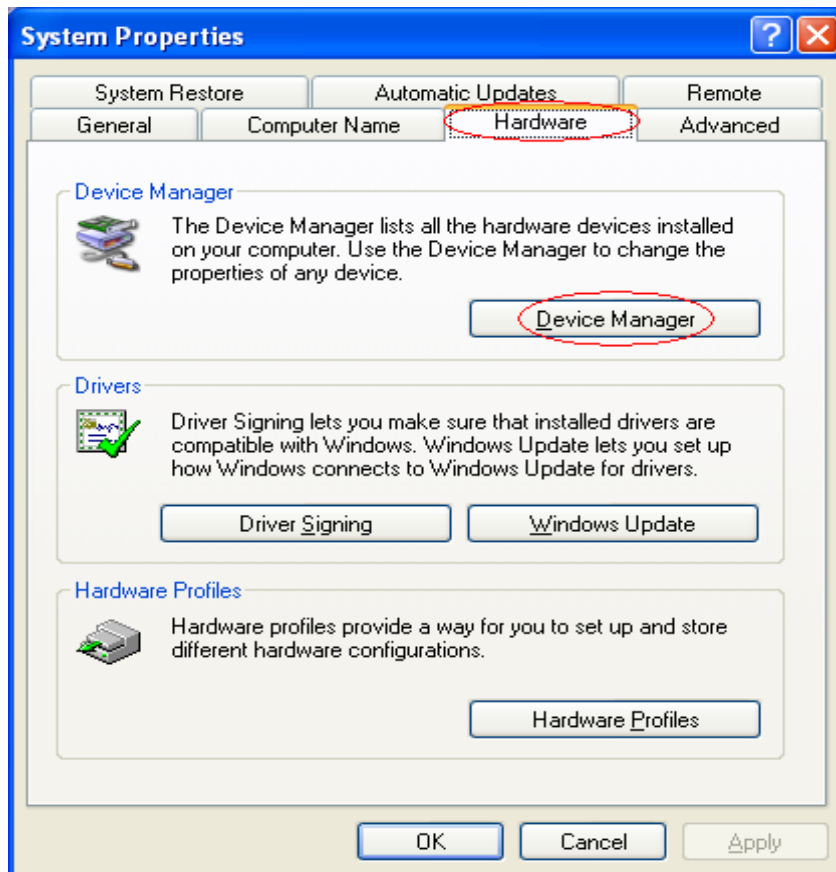

Figure 2-14
Step 1: Right-click **My Computer** icon on the computer and select **Properties** (show in Figure 2-14).